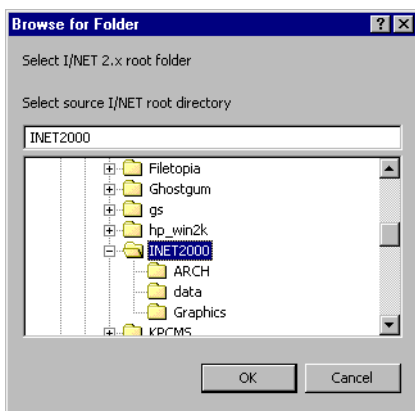

Figure 4-5. Browsing to the TAC I/NET 2000 Root Directory
4. A new dialog opens allowing you to navigate to the TAC I/NET 2000 Rev. 2.x system root directory (see Figure 4-5). Highlight the directory and select **OK**.